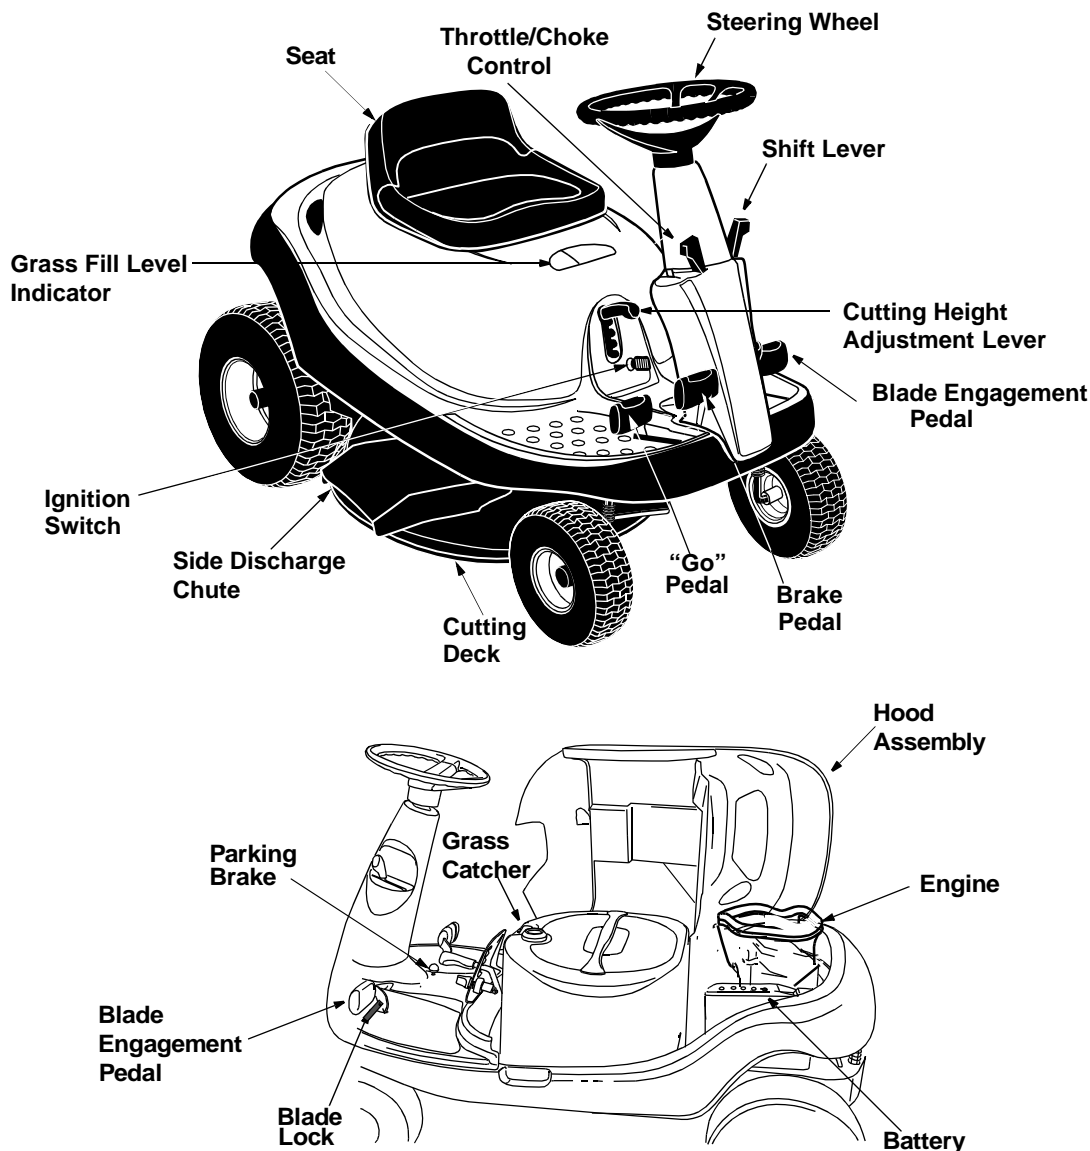

Figure 8
- Be sure parking brake is disengaged. See Figure 8 for location of parking brake. Roll unit out of the crate's way.
Compare the illustrations in Figure 8 with your rider mower to familiarize yourself with the location of various controls and adjustments. The operation of any rider mower can result in foreign objects being thrown into the operator's eyes, causing severe eye damage. **Always wear safety glasses** before operating the mower, or while performing any adjustments or repairs on it.
NOTE: Your rider mower is equipped with a blade lock to keep the blade engaged without the operator having to depress the blade pedal continuously. See Figure 8.